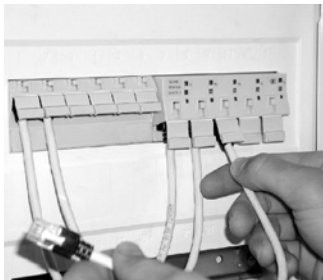

Figure 7
- 3 Plug the patch cord of the terminal devices in the corresponding jacks (fig. 7).